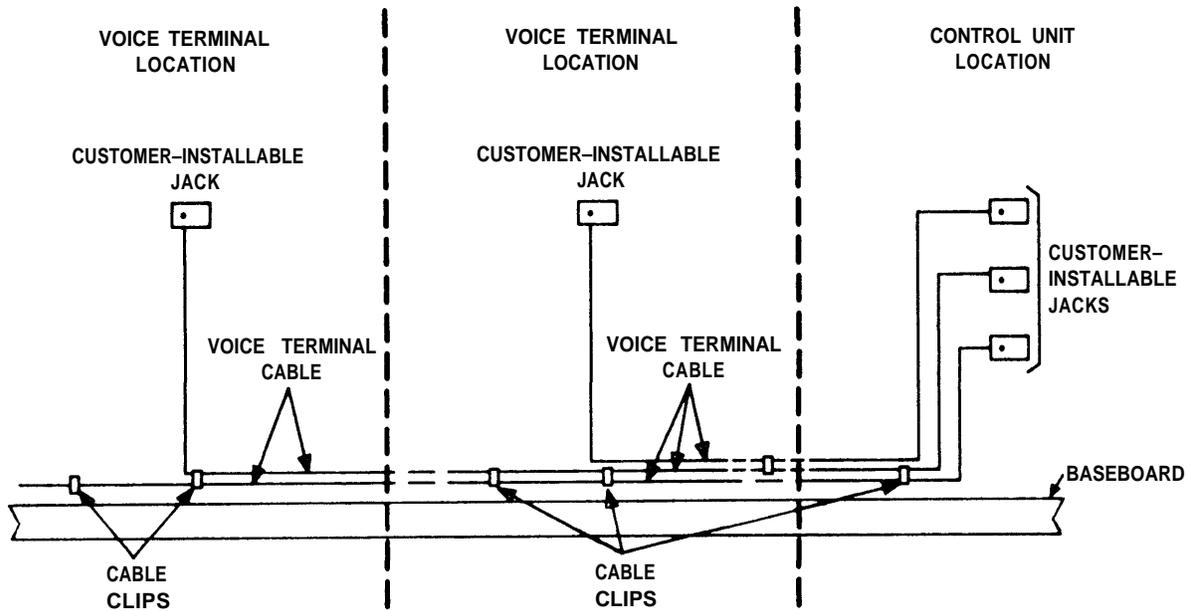

Figure 16
- ❑ 2. Starting near the control unit jacks, and working toward the voice terminals, fasten the cables following the instructions applicable to the type of fastener you are using. If you are using adhesive-backed cable clips, you will achieve a neater appearance if you run the cables closely together in the same direction. See Figure 16.